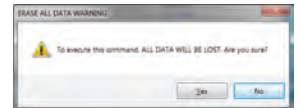

FIGURE 7
- If Data-Logger is to be reinitialized for next shipment, click Erase all data first. The software will prompt a warning message. See Fig. 7.